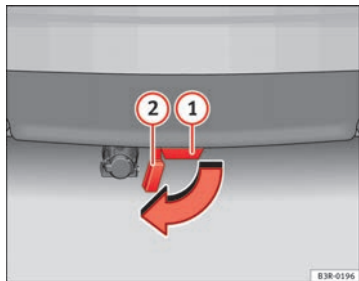

Fig. 167 Rear bumper:
- Remove the cover piece ② ⇒ Fig. 167 on the mounting fixture ① below the bumper as far as it will go. The cover piece is held automatically in the open position.